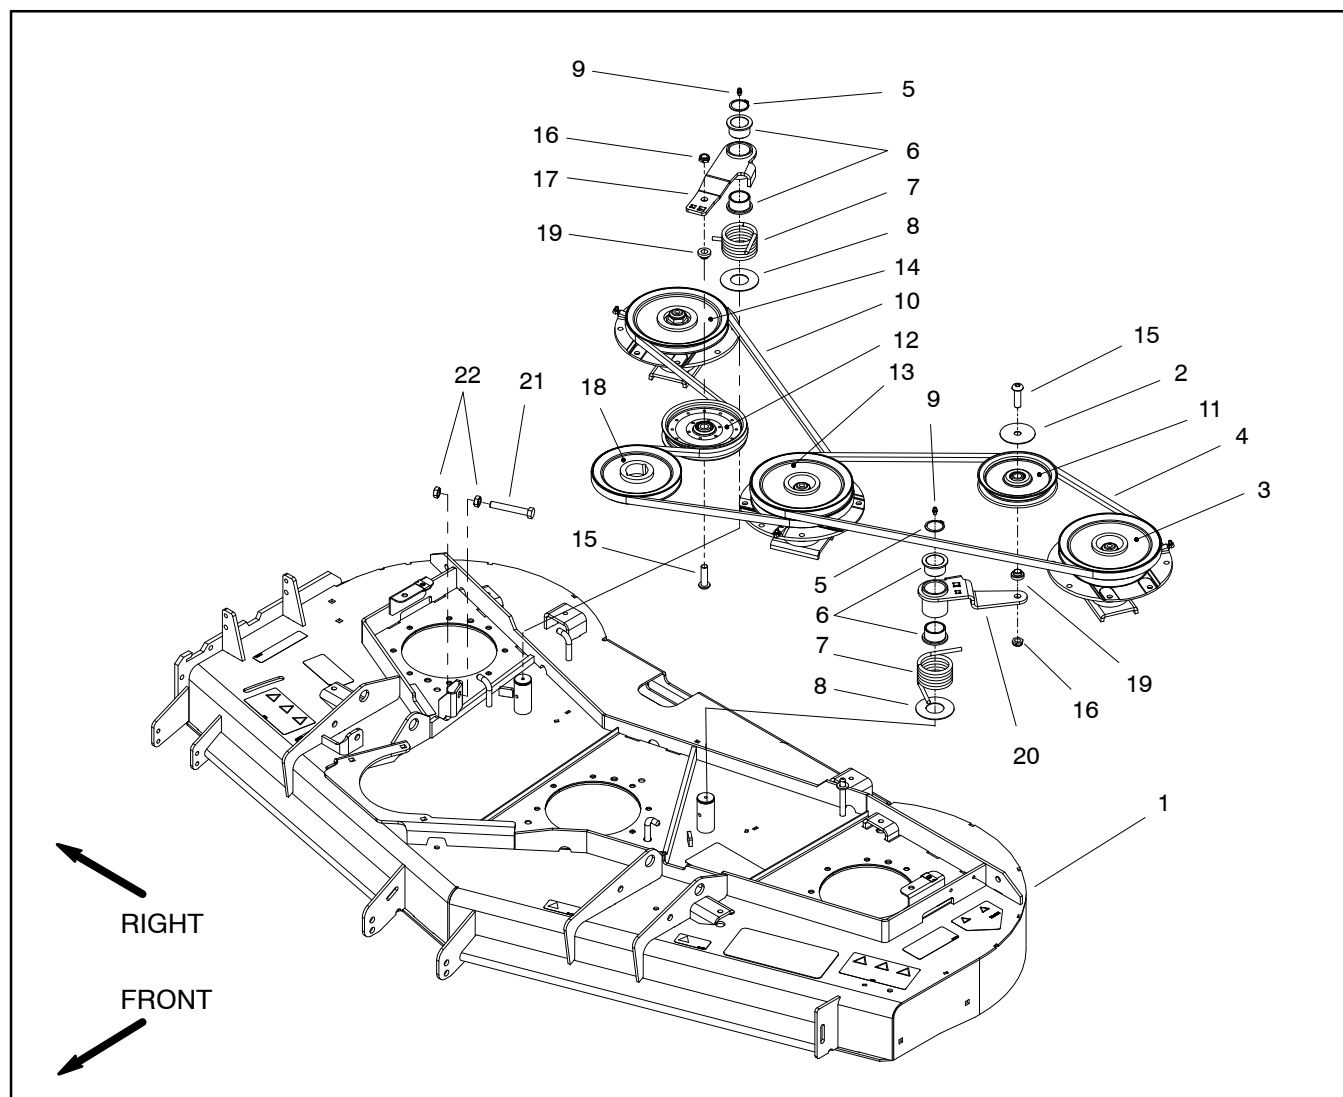

Figure 4
### Removal (Fig. 4)
9. Remove idler components as needed using Figure 4 as a guide.
### Installation (Fig. 4)
1. Install removed idler components using Figure 4 as a guide. Secure idler arm assembly to cutting deck with snap ring.